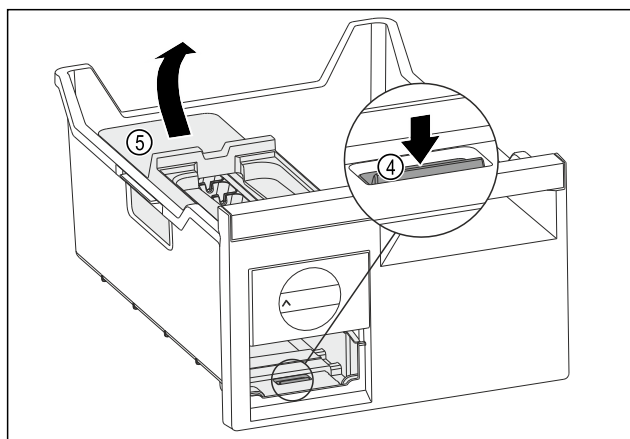

Fig. 124
- Removing the EasyTwist-Ice body: Use your finger to push the tab Fig. 124 (4) down and use your other hand to lift the EasyTwist-Ice body Fig. 124 (5) from behind at the same time.